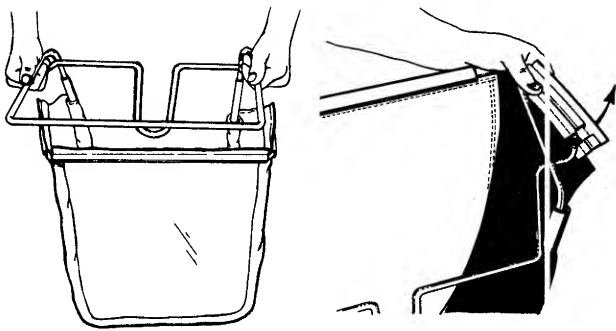

FIGURE 11.
2. Slide the ends of the front frame assembly into the ends of the rear frame as shown in figure 11.
3. Slip the openings in the side of the plastic channel on bag over hooks on the grass catcher frame. See figure 11.